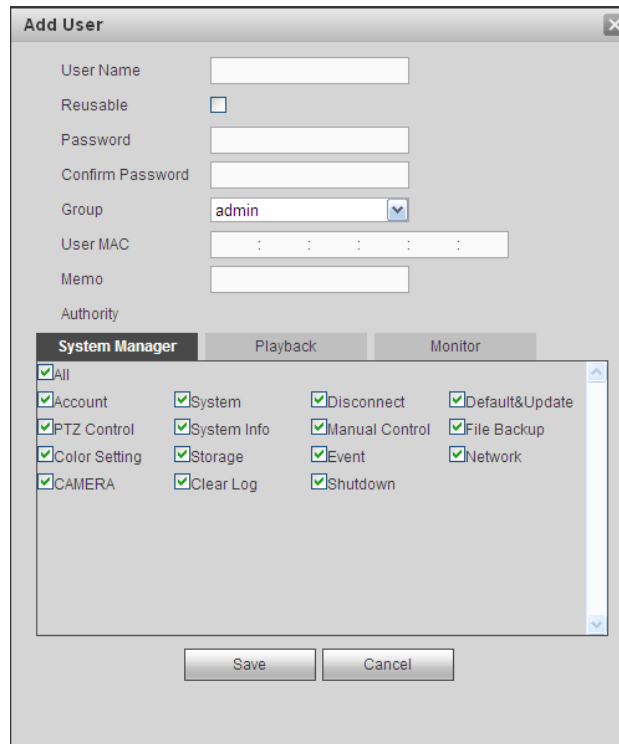

Figure 5-85
**Add user:** It is to add a name to group and set the user rights. See Figure 5-85.